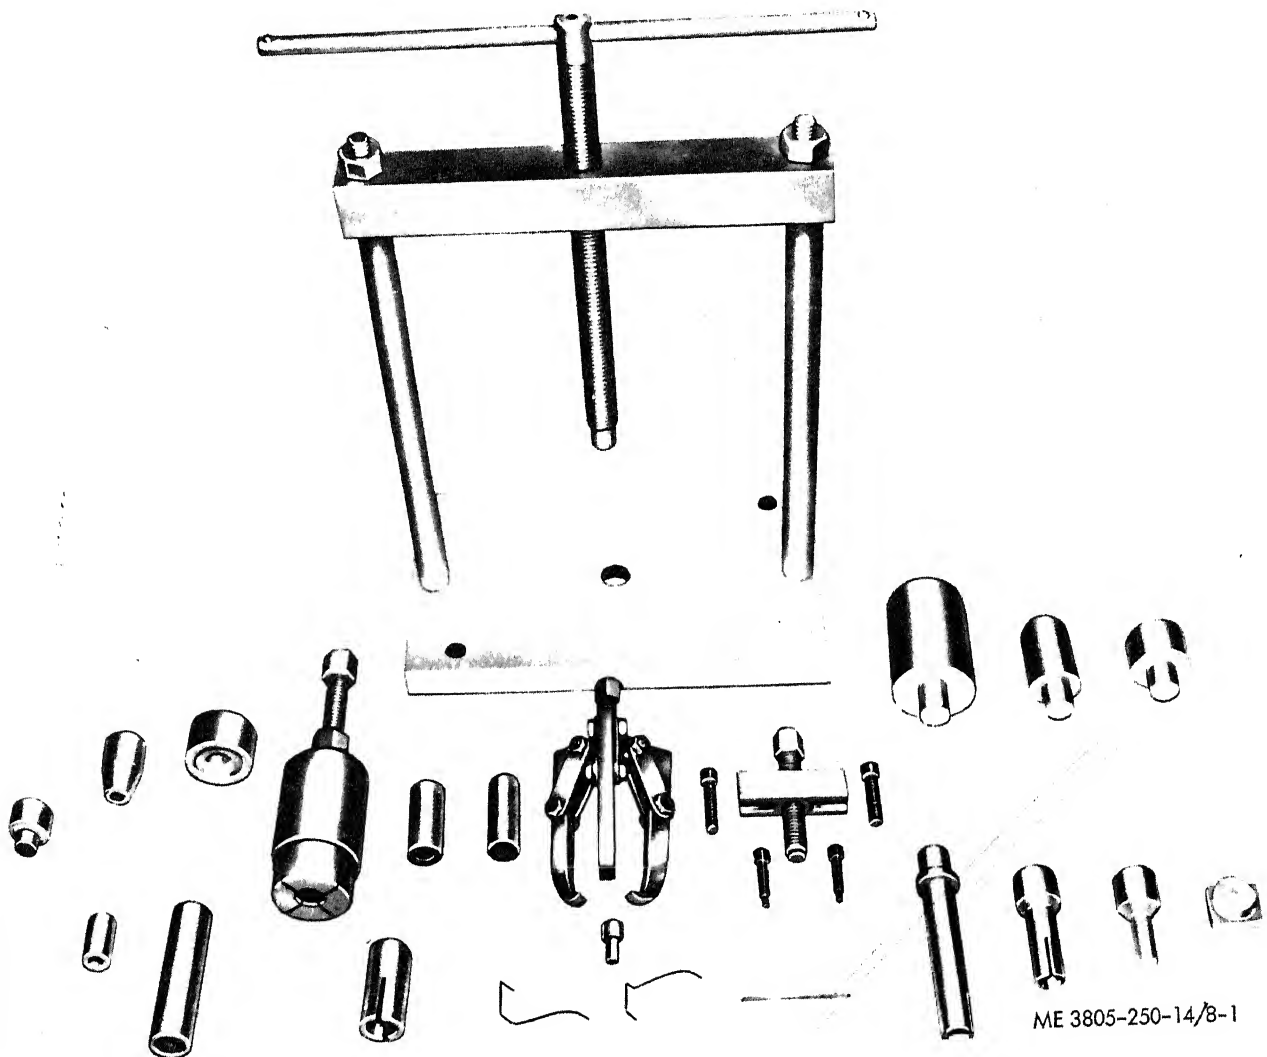

Figure 8-1. Alternator service set A200-S.
*Note.* Use Alternator Service Set A200-S (fig. 8-1) to aid in disassembling the alternator.
(1) Place the alternator in a vise with the rear housing up.
*Note.* Refer to figure 8-1 for Alternator Service Set tools required for assembling the alternator.
(1) Position the front bearing retainer (23) and felt washer (24) on the shaft of rotor (26). Press the bearing sleeve (25) onto the shaft.
(2) Install tool A-208 in the base of Alternator Press A-201, and install tool A-205 in tool A-208. Install tool A-209 on the tip of the forcing screw on the Alternator Press. Support the rotor (26) on tool A-205, and place the drive end housing (17) and bearing (20) in position on the rotor. Turn the press's forcing screw until the bearing reaches the stop on the rotor shaft.
(3) Install a new seal (19) in the drive end housing. Secure the bearing retainer (23) to the front housing with three screws (21) and lockwashers (22).
(4) To install the rear bearing (31) on the rotor (25), place tool A-208 in the base of Alternator press A-201, and install tool A-206 on the tip of the press's forcing screw. Support the drive end housing (17) and rotor (26) on tool A-208, and position bearing (31) on the rotor. Turn the press's